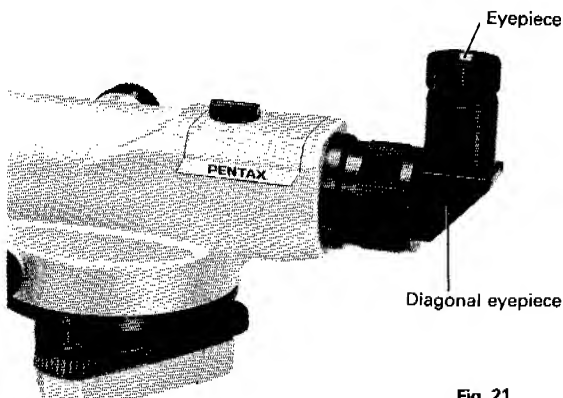

Fig. 21
- ③ Looking into the eyepiece lens of the diagonal eyepiece, collimate the reticle. (Fig. 21)